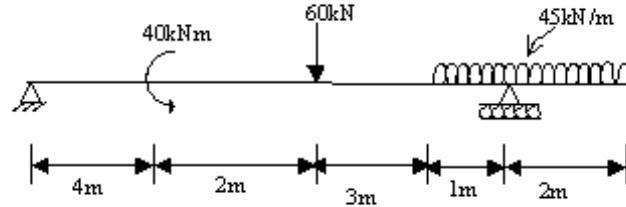

Figure 2:
3. Draw shear force and bending moment diagrams and mark the salient values. {As shown in the Figure2} [16]